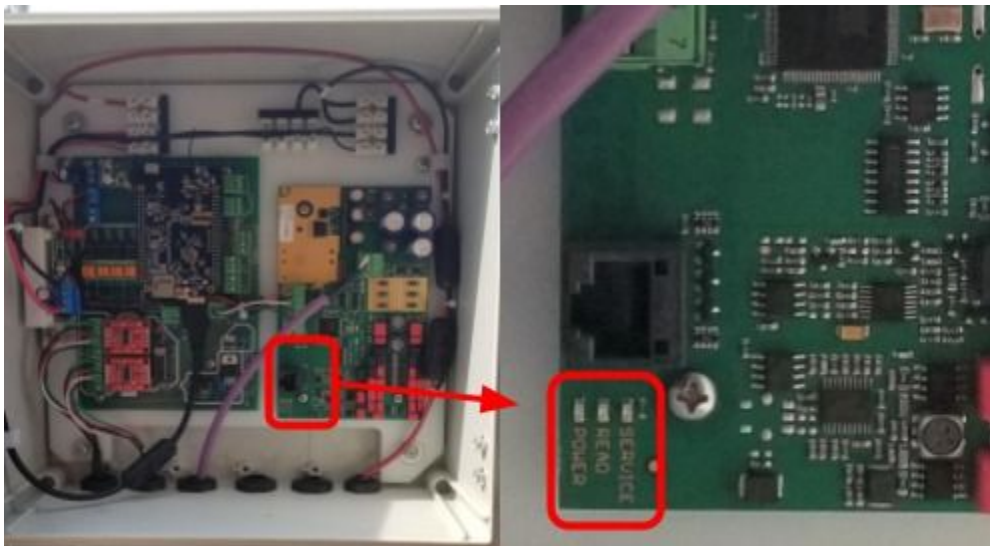

Figure 12) Checking the RFID Reader
2. Open the electronics box by unlatching the 2 fasteners (Figure 12).